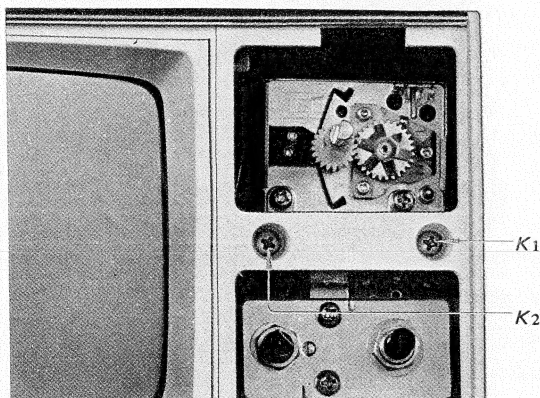

Fig. 2-12
3. Remove the two screws labeled K1 and K2 in Fig. 2-12.